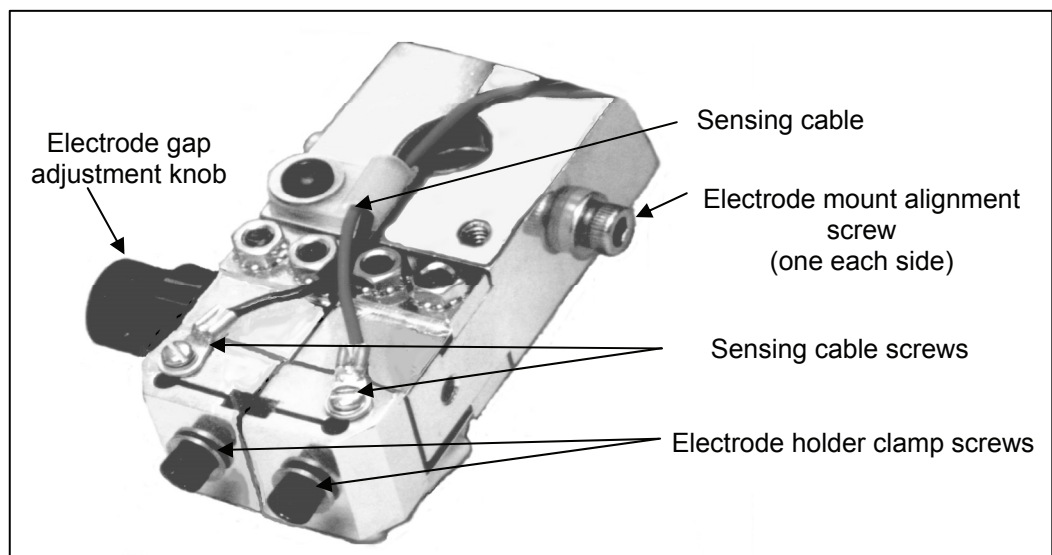

Figure 2-2. HE50UB Electrode Holder, Bottom View
- 1 Check the voltage sensor cable located on the underside of the HE50UB Electrode Holder. Verify that the two slotted head screws attaching the voltage sensing cable to the flexure assemblies, shown in figure 2-2, are securely tightened. Erratic operation results if they are loose.